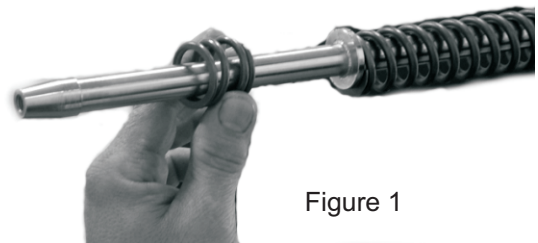
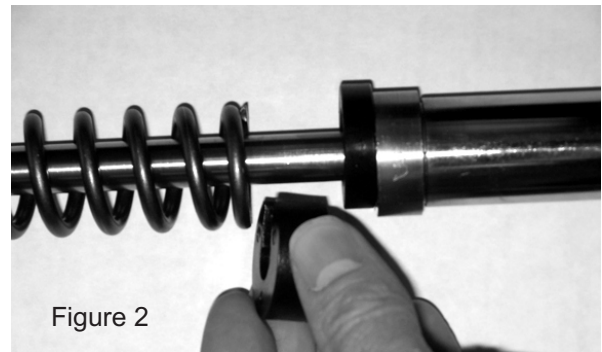

Figure 1
Figure 2
- Put the stock top-out spring onto the Progressive Suspension Monotube cartridge assembly as shown (see figure 1) AND one of the supplied "C" shaped preload spacers between the top of the fork spring and the upper spring seat (see figure 2). Then insert it into the fork assembly as shown (see figure 3).